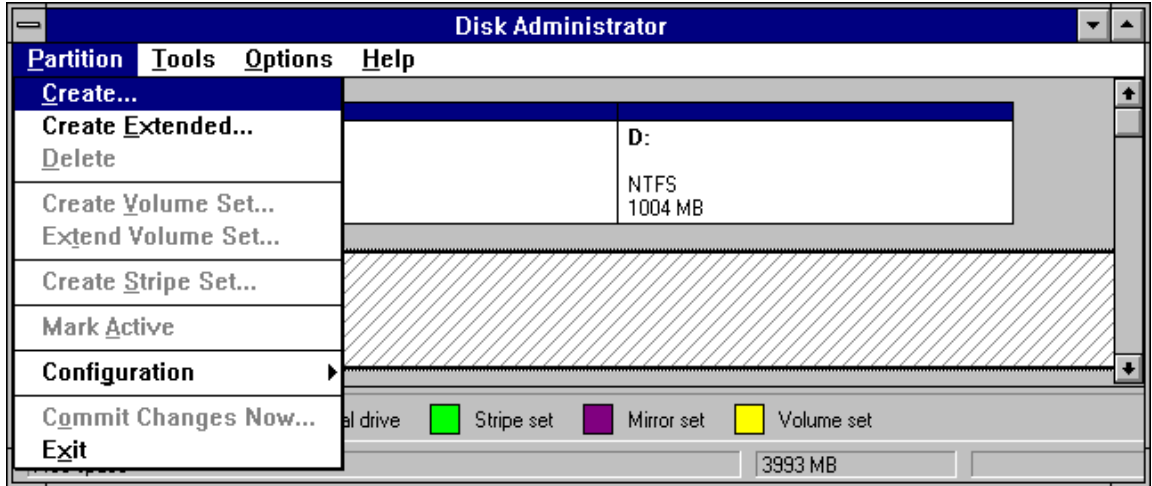

Figure 3.3 Opening the Create Primary Partition Panel
2. Figure 3.3). **Note:** Stripe Set Volume with parity is not currently supported on the 9500V.